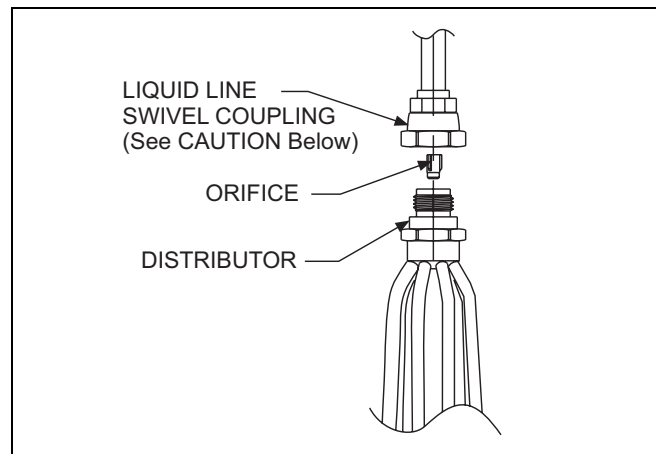

FIGURE 1: Orifice Installation
Each coil will have an orifice installed in the fitting between the liquid line connection and distributor. (See Figure 1).
2. Remove the new orifice from the packet and verify that it is the correct number required. Install this orifice with the rounded end toward the coil and the flat end outward per Figure 1.